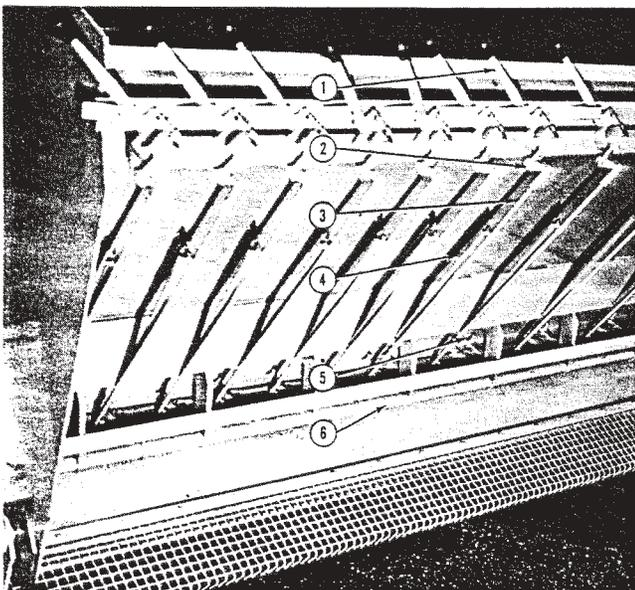

Figure 3
3. Engage the proper number of hopper gate control levers to obtain the desired spread width. (Figure 3).